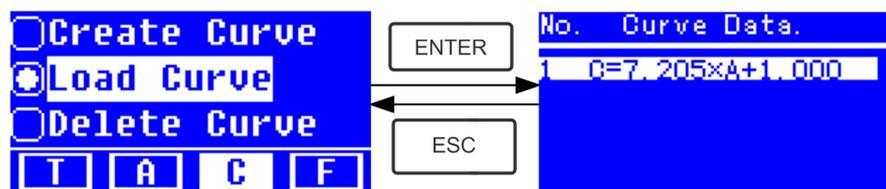

Fig. 4-13
- ★ Move the cursor on "Load Curve" and press  to confirm. Then the system will go into the curve equation record interface.(Fig. 4-13)